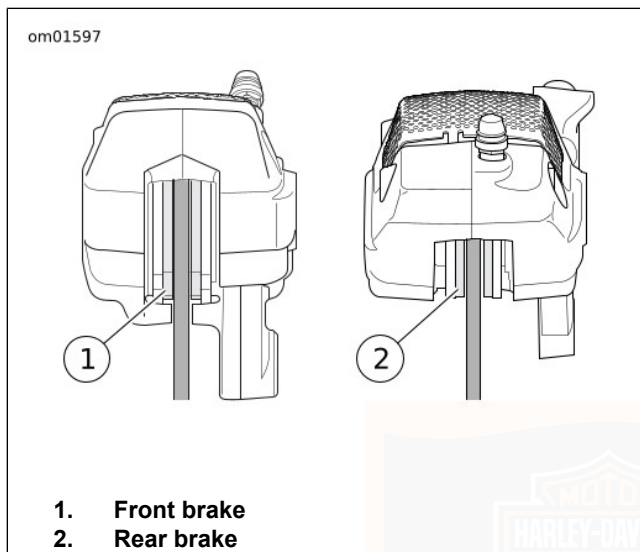

Figure 38. Brake Friction Material
2. See Figure 38. Measure the thickness of the brake pad friction material. For rear brakes, place the ruler against the brake disc through the space alongside the caliper.